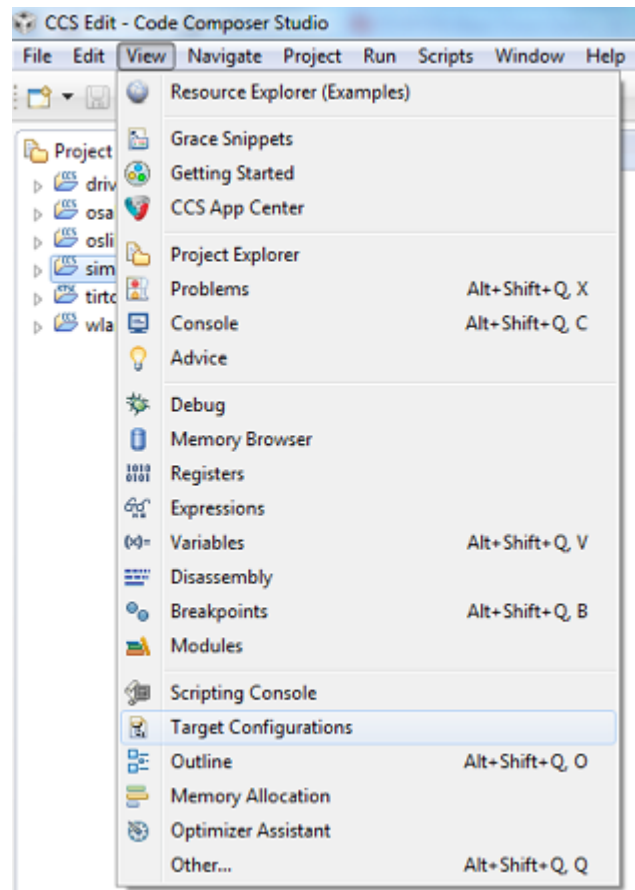
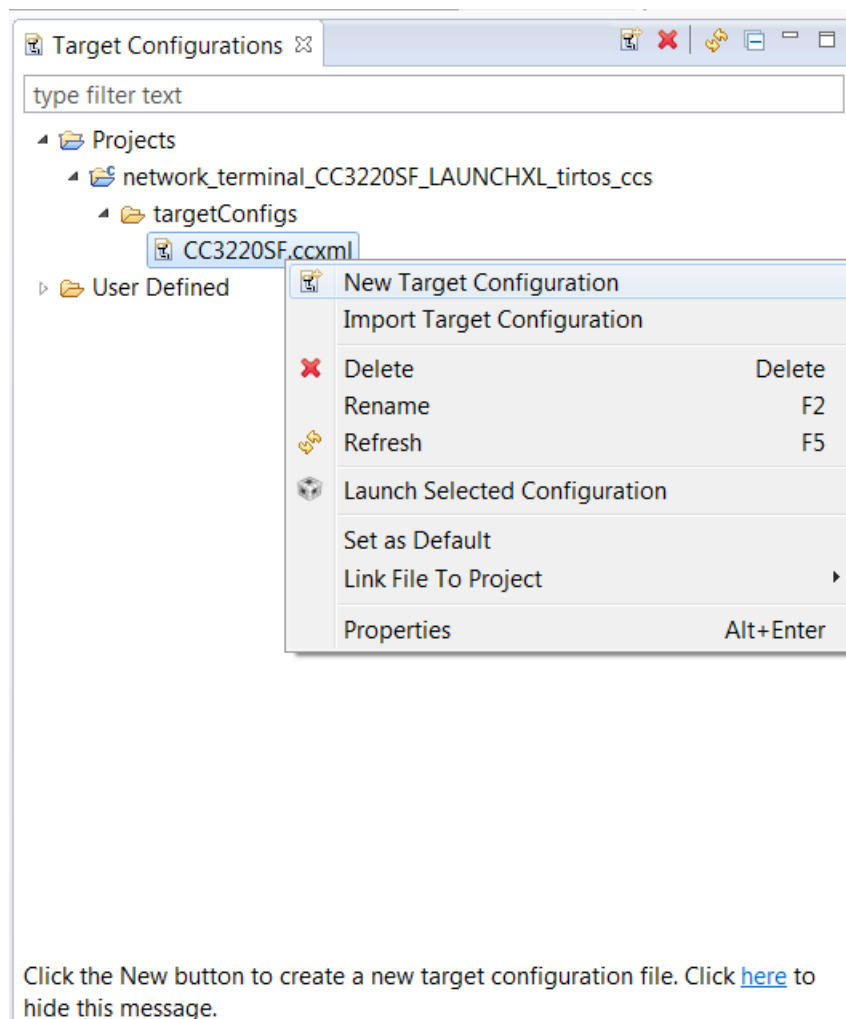

Figure 4-3. View Target Configurations
Figure 4-4. Select Target Configuration
2. By default the target configuration is defined by the application project that we imported in Section 3.1.1. Navigate to View → Target Configurations, as shown in Figure 4-3 to verify that the right configuration is selected (see Figure 4-4).